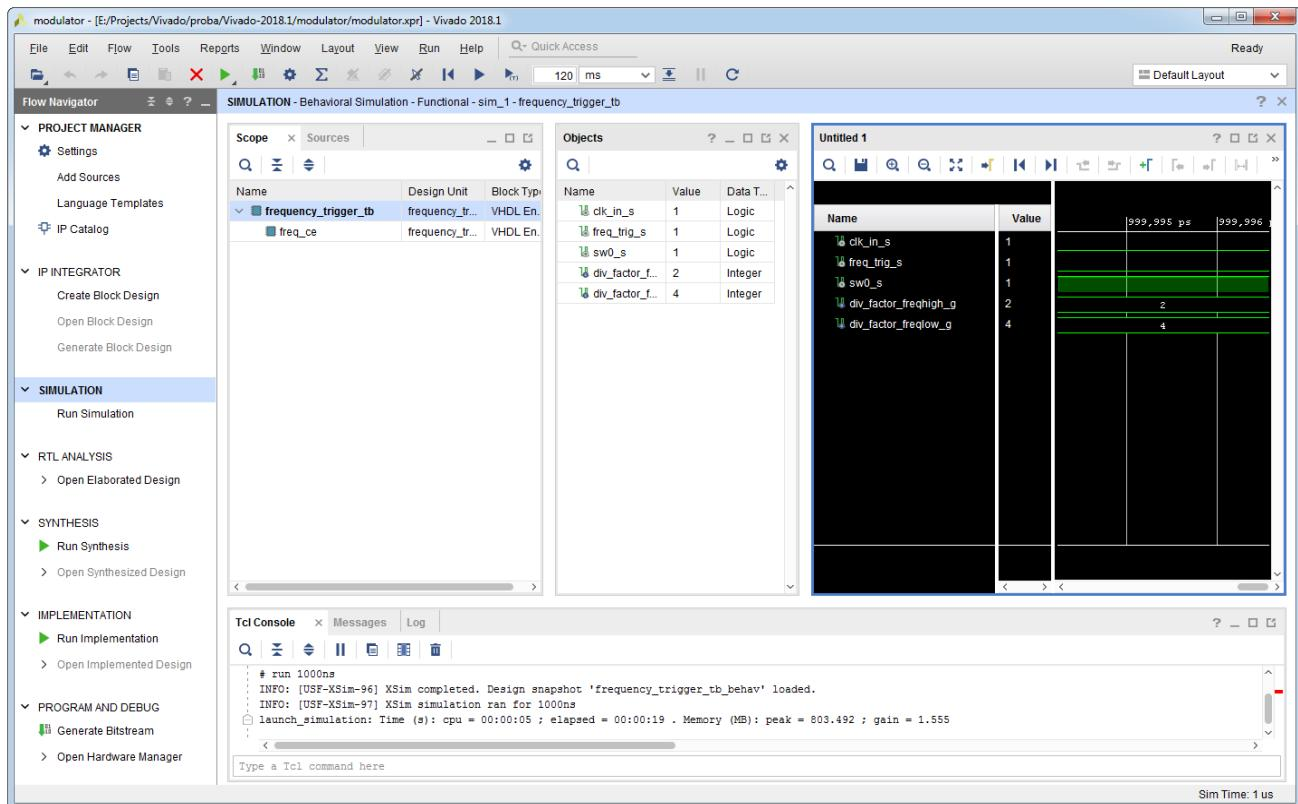

Figure 2.35: Vivado IDE Viewing Environment - after simulation process
4. The tool will compile the test bench file and launch the Vivado simulator, see Figure 2.35.